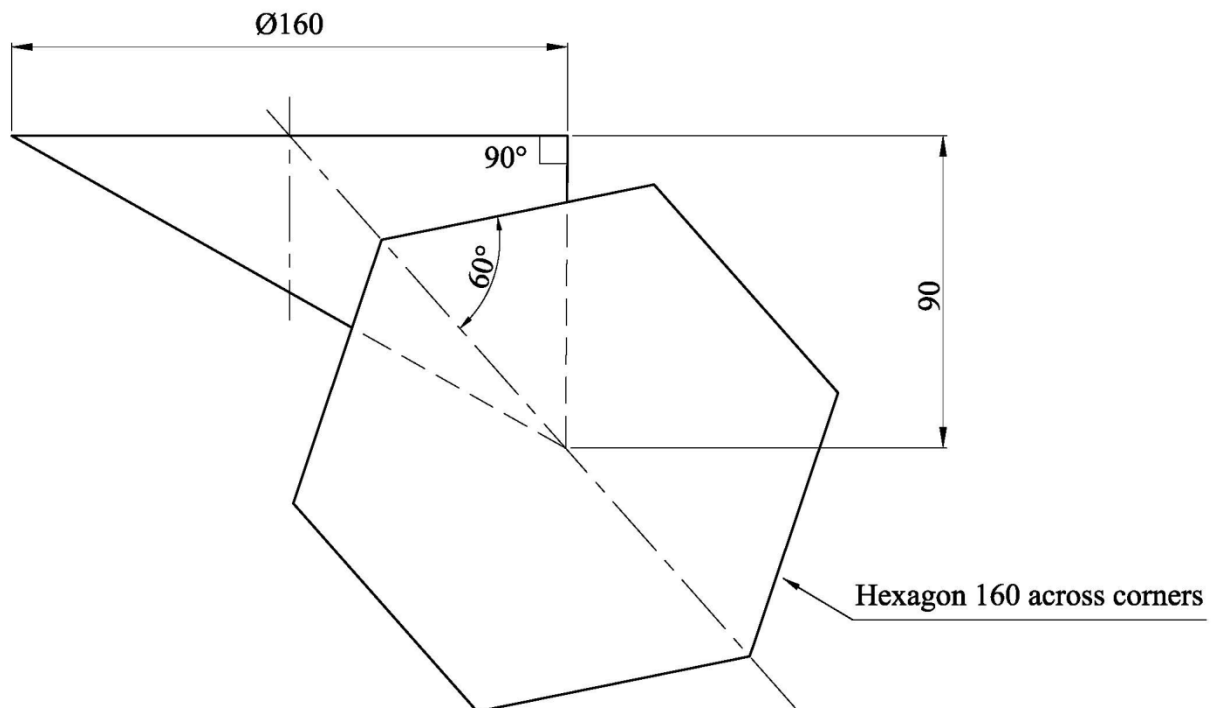

FIG. 3b
The oblique cone illustrated in Figure 3a is open at both ends. Figure 3b is the front view of the oblique cone with a part hexagonal cut. The centre of the regular hexagon is on the apex of the oblique cone and two sides of the hexagon cut the oblique cone as shown in Figure 3b.
- a) the given elevation shown in Figure 3b;